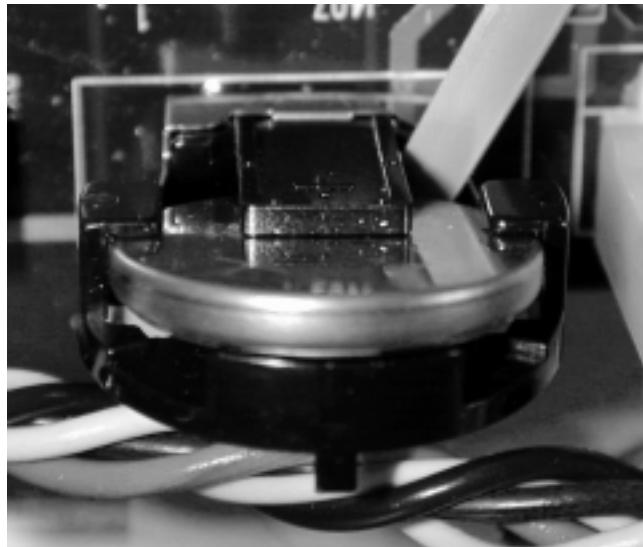

Figure 5-2 Removing battery
3. Insert your fingernail, the plastic knife, or the pen cap behind and under the battery, and lift the battery out, as shown in Figure 5-2.